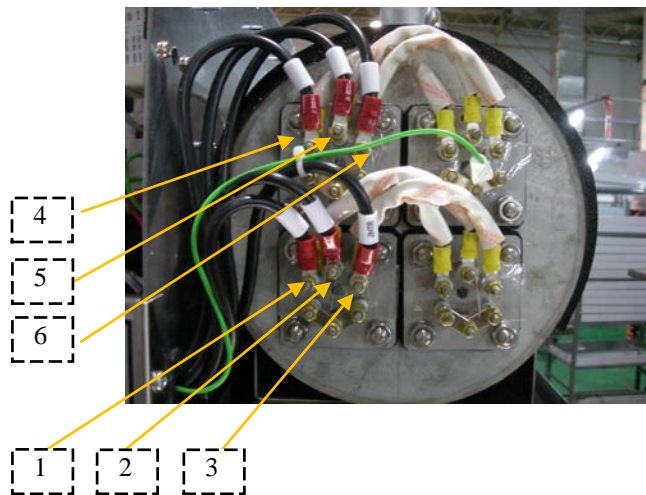

Fig.23
17. Wash booster heater every two weeks or three weeks because too much dirty attached to heater surface. Disconnect electrical supply and place a tag at the disconnect switch to indicate that you are working on the heater before beginning any maintenance procedure. Heater connection refers to Fig.23. Connect 1THR/2THR/3THR with 1, 2, 3 terminals and connect 4THR/5THR/6THR with 4, 5, 6 terminals.
See appropriate heater line diagram (Fig. 23) for proper heater installation.